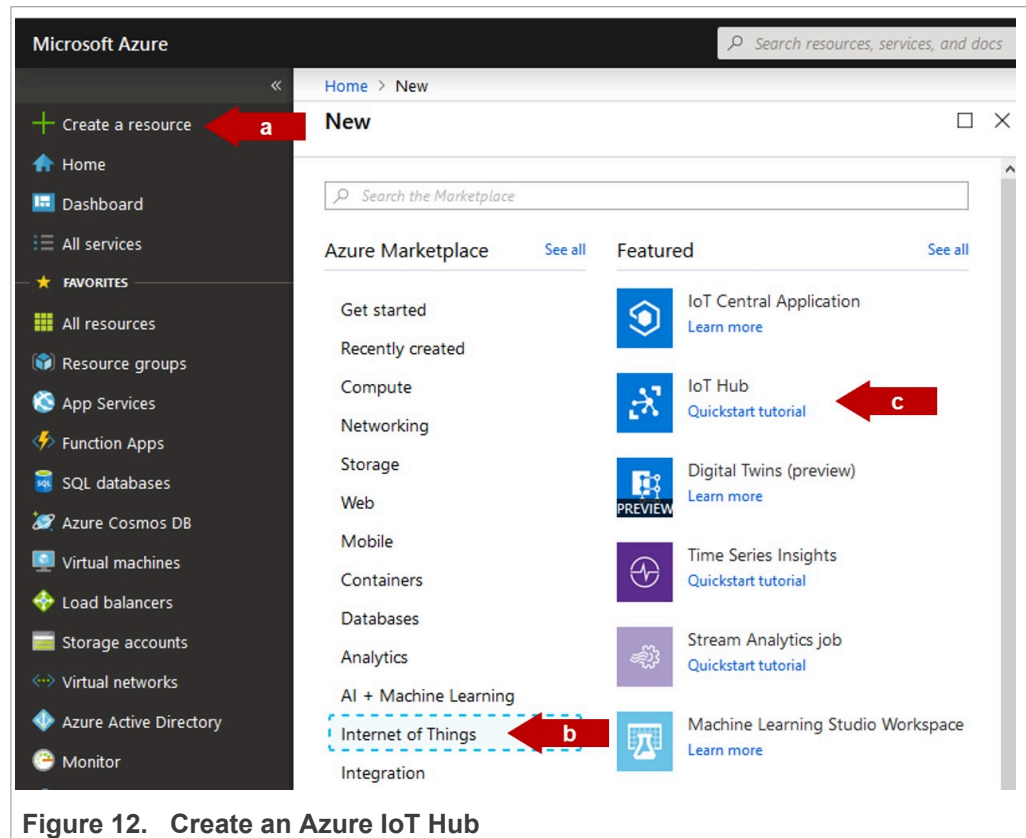

Figure 12. Create an Azure IoT Hub
1. Log in the Azure portal. In the Azure dashboard do as shown in Figure 12: